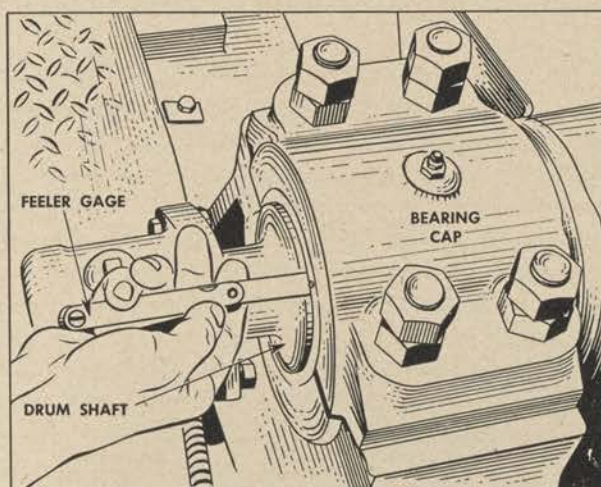

Figure 243. Measuring clearance on drum shaft bearing.
e. *DRUM SHAFT BEARING CLEARANCE.* (1) The entire load of any drum is carried by the drum shaft bearings which are therefore subject to wear. Normal clearance between the shaft and the bearing should be 0.005 inch, and is checked by inserting a feeler gage between the shaft end and the bearing halves. (See fig. 243.)